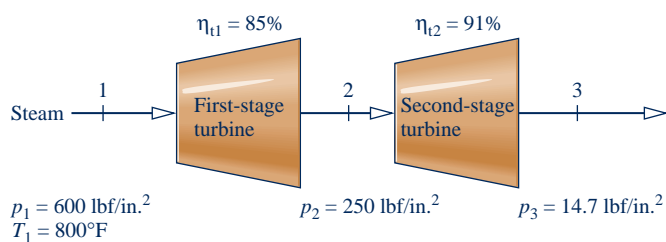

Fig. P6.167
6.167 As shown in Fig. P6.167, a well-insulated turbine operating at steady state has two stages in series. Steam enters the first stage at 800°F, 600 lbf/in.² and exits at 250 lbf/in.². The steam then enters the second stage and exits at 14.7 lbf/in.². The isentropic efficiencies of the stages are 85% and 91%, respectively. Show the principal states on a T - s diagram. At the exit of the second stage, determine the temperature, in °F, if superheated vapor exits or the quality if a two-phase liquid-vapor mixture exits. Also determine the work developed by each stage, in Btu per lb of steam flowing.